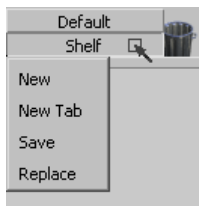
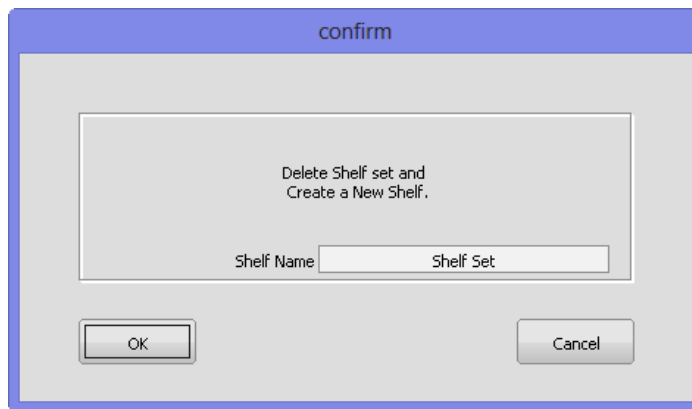

Figure 1-33 The Shelf flyout
Figure 1-34 The confirm message box
3. Create a new shelf in the **Control Panel**. To do so, press and hold the left mouse button on the **Shelf** button in the **Control Panel**; the **Shelf** flyout will be displayed, as shown in Figure 1-33. Choose the **New** option from this flyout; the **confirm** message box will be displayed, as shown in Figure 1-34. In the **confirm** message box, enter the new name (**Surface**) in the **Shelf Name** edit box and choose the **OK** button; a new shelf with the entered name will be displayed.